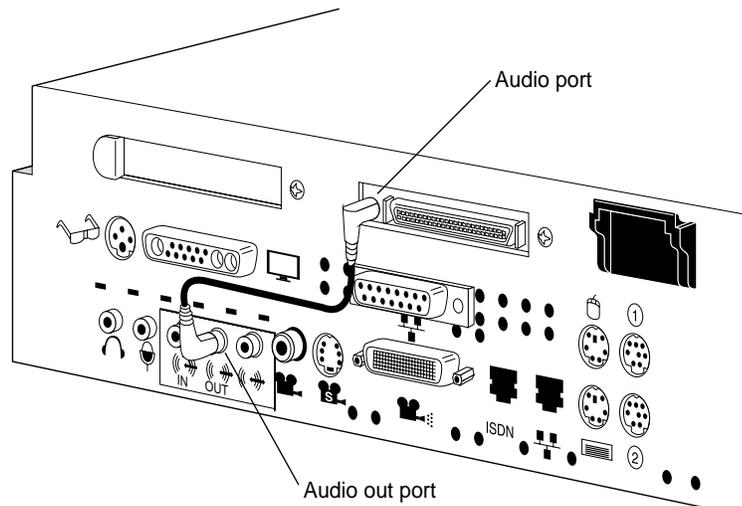

Figure 3-8 Connecting the Audio Cable
- Connect the other end to the board's audio port, as shown in Figure 3-8.